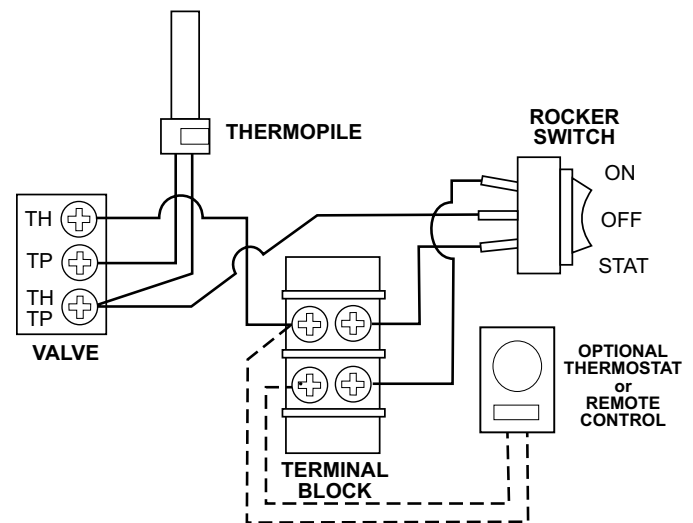

Figure 7.7. Accessory control wiring diagram.
5. Connect the Receiver leads to the valve terminal block as shown in fig. 7.7.
- Connect each thermostat lead to either of the two open terminal block connectors located on the back of the control panel. Do not overtighten the connections. See fig. 7.7.